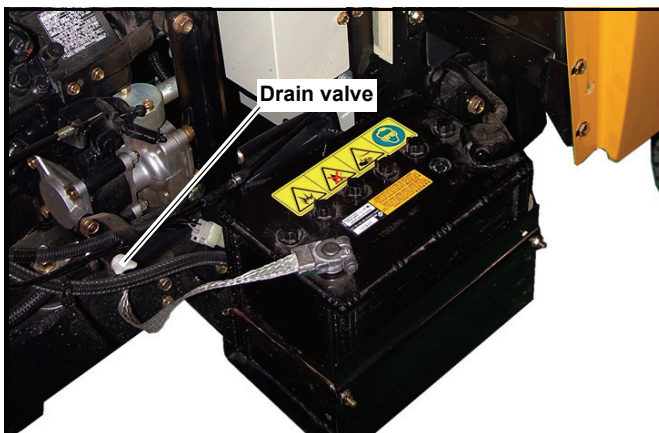

Figure 4-18
1. Use a suitable receptacle to catch the used coolant. Remove the radiator cap and open the drain valve to drain the radiator and engine block. Figure 4-18